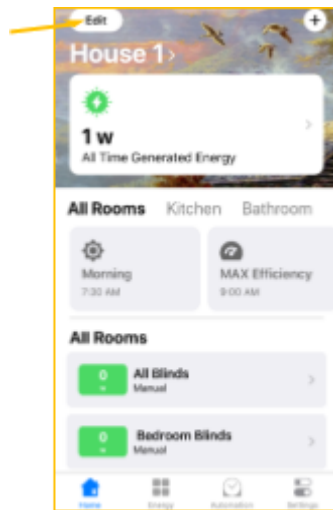

Figure 50
**10.11.1.** Click **Edit** in the top left corner to start (Fig. 50).